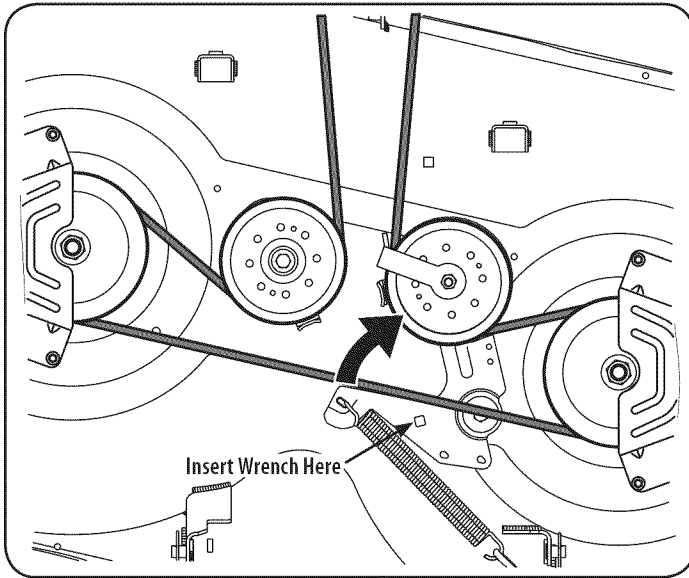

Figure 24
- c. Working on the right side of the tractor, insert a $\frac{3}{8}$ " drive ratchet wrench, set to tighten, into square hole found on the idler bracket. See Figure 24.